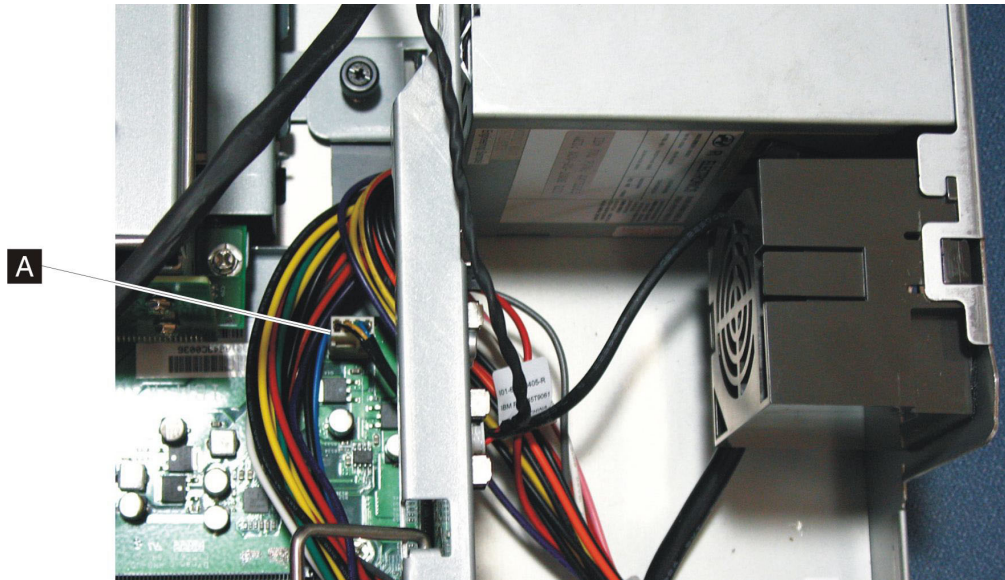

Figure 29. Disconnecting the chassis fan
2. Carefully disconnect the fan connector (**A** in Figure 29) from the system board.